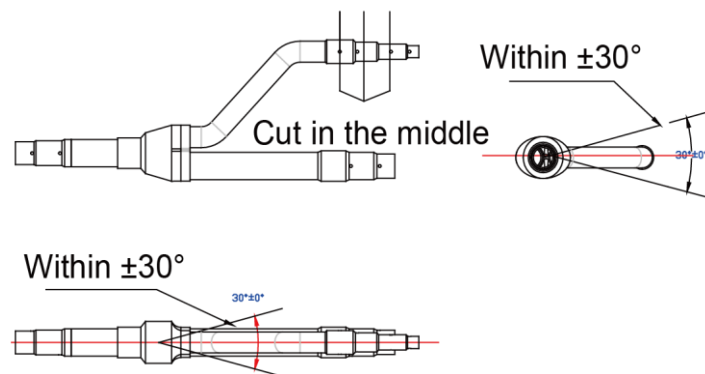

Fig. 20
(2) Y-type branch has several pipe sections with different dimension, which facilitates to match with various copper pipes. Use pipe cutter to cut in the middle of the pipe section that is of proper dimension and remove burrs as well. See Fig. 20.
(3) Y-type branch must be installed vertically or horizontally.